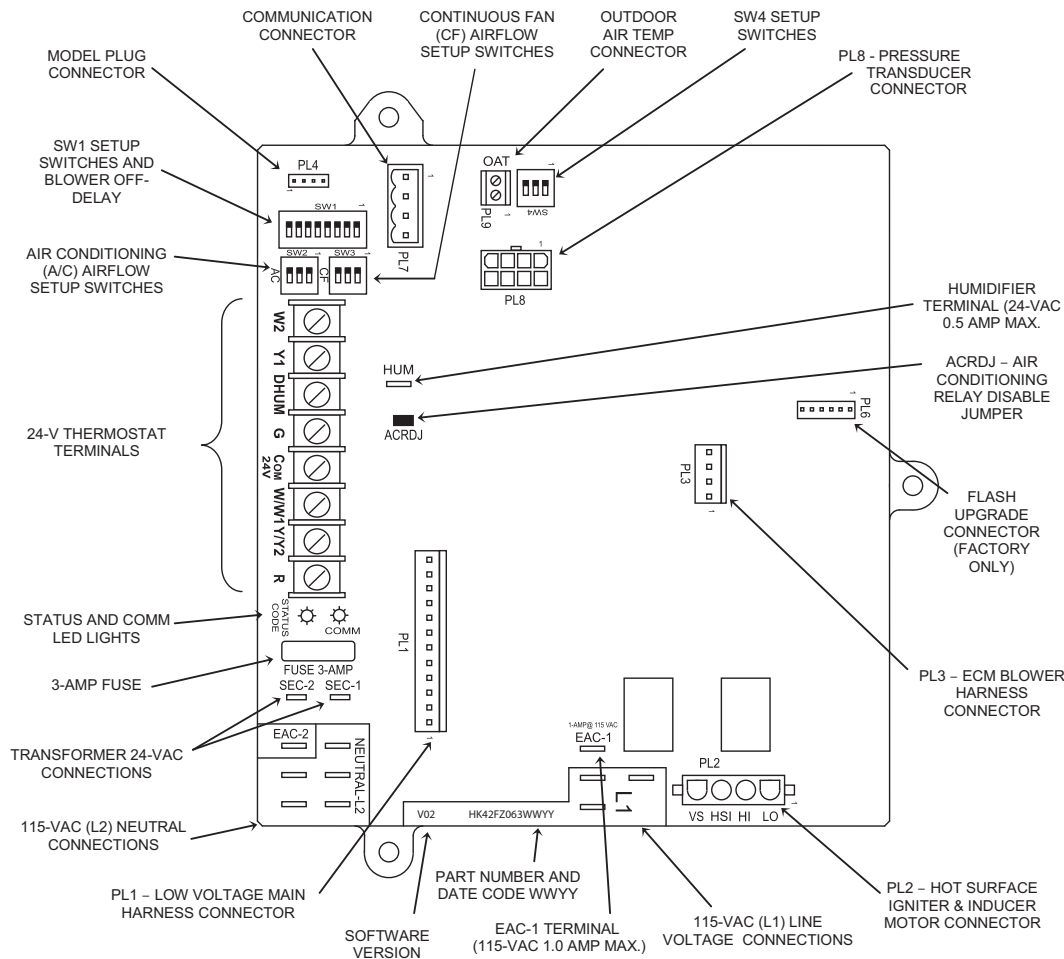

Fig. 42 – Furnace Control
Make field 24-v connections at the 24-v terminal strip, see Fig. 42. Connect terminal Y/Y2, see Fig. 76, for proper cooling operation. Use only AWG No. 18, color-coded, copper thermostat wire.
The 24-v circuit contains an automotive-type, 3-amp. fuse located on the control. Any direct shorts during installation, service, or maintenance could cause this fuse to blow. If fuse replacement is required, use ONLY a 3-amp. fuse of identical size, see Fig. 42.
A single stage heating and cooling thermostat can be used with the furnace. The furnace control board CPU will control the outdoor unit staging. A 2-stage thermostat can also be used to control the two-stage cooling. For 2-stage thermostat control of a 2-stage outdoor unit, remove the ACRDJ jumper from the furnace control board. Refer to typical thermostat wiring diagrams and the Sequence of Operation section for additional details. Consult the thermostat installation instructions for specific information about configuring the thermostat. , see Fig. 42 and Thermostat wiring)
NOTE: : If the humidifier has its own 24 VAC power supply, an isolation relay may be required. Connect the 24 VAC coil of the isolation relay to the HUM and COM/24V screw terminal on the control board thermostat strip, see Fig. 42.
3. Communication Connector (communication connection) This connection is used when the furnace is controlled by an optional communicating User Interface instead of a standard thermostat. The communication plug is supplied with the User Interface. Refer to the instructions supplied with the User Interface for complete details, see Fig. 42.